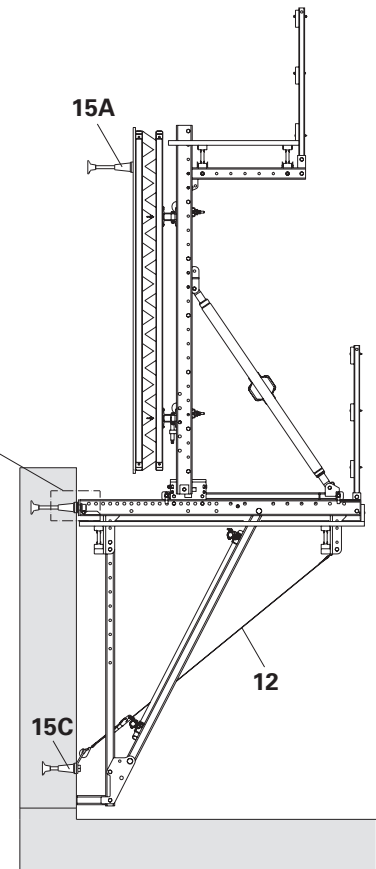

Fig. A2.07
2. Fix Leading Anchor (15A) to the formwork, see A2.6. (Fig. A2.07)